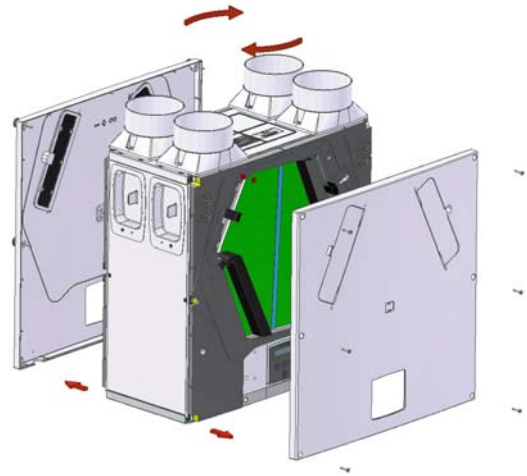

Figure 3: Installing the Unit in the Opposite Orientation
1. Remove the front and rear covers by unscrewing the 6 fixing screws on each cover (see Figure 3).